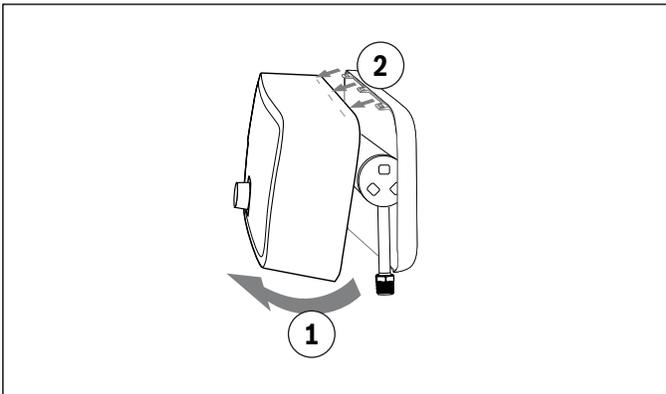

Figure 5
- Position the unit on the mounting surface. Ensure the unit is level. Mount the unit to the wall with four (4) screws of at least one (1) inch in length (installer supplied) at the marked points. See Figure 5.